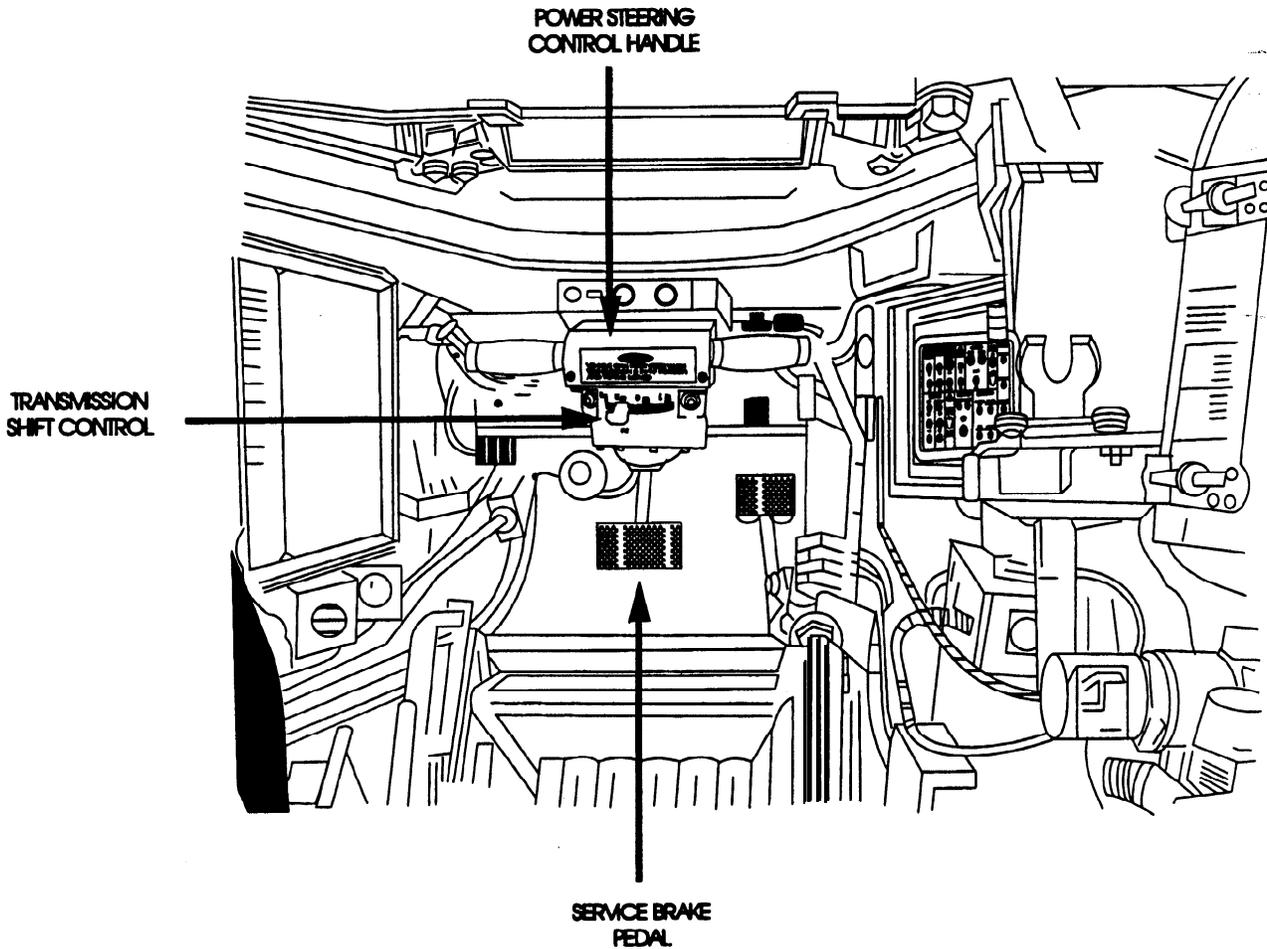

Figure 2-20. Steer-Throttle Control, Transmission Shift Control, and Service Brake Pedal
2.3.3.1 Steer-Throttle Control. The simulator employs an electromechanical sensor to sense steering input and an electronic sensor to sense throttle positions. These readings are input to the computer and the scenery, apparent vehicle movement, and audio effects change corresponding to the Driver's control settings of the Steer-Throttle Control, shown in Figure 2-20. Using the Steer-Throttle Control, the Driver can control simulated acceleration at realistic rates and desired speeds consistent with the gear and selected terrain.
2.3.3.2 Service Brake Pedal. The simulator employs an electromechanical sensor to sense the Driver's application of the service brake, shown in Figure 2-20, and the degree of pressure applied when stopping. This sensing results in the appropriate change in the simulated vehicle movement.
2.3.3.3 Transmission Shift Lever. The simulator electronically senses the position of the Transmission Shift Lever, shown in Figure 2-20, and provides the appropriate simulated vehicle performance and audio of corresponding engine sound effects. Lever positions are selectable.